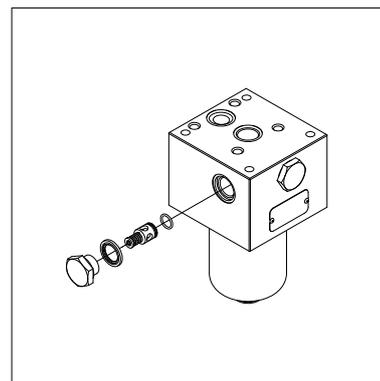

fig. 18
- (Fig. 18) Replace the O-rings of the bypass